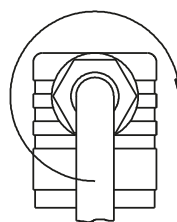

Fig. 5
- ↪ Press the core ⑧ into the cable socket ② until it locks into place.
- ↪ Put the central screw in the cable socket and tighten the screwed cable gland (→ Fig. 5).